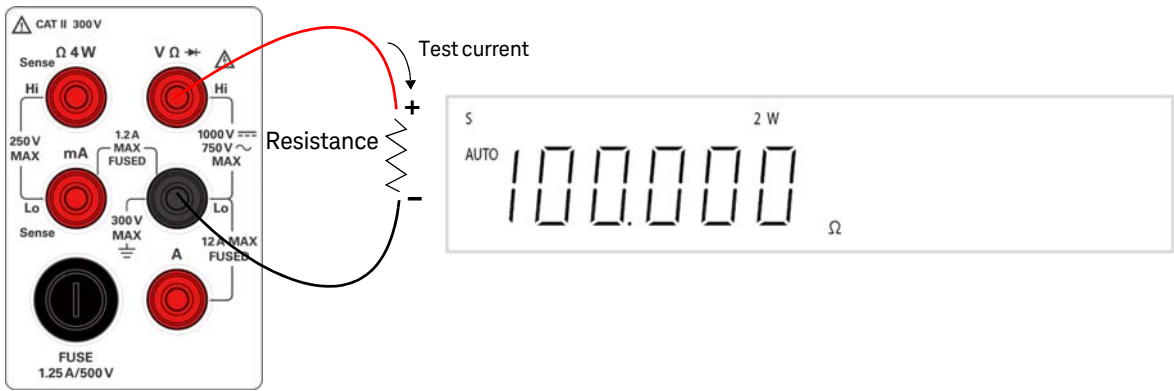
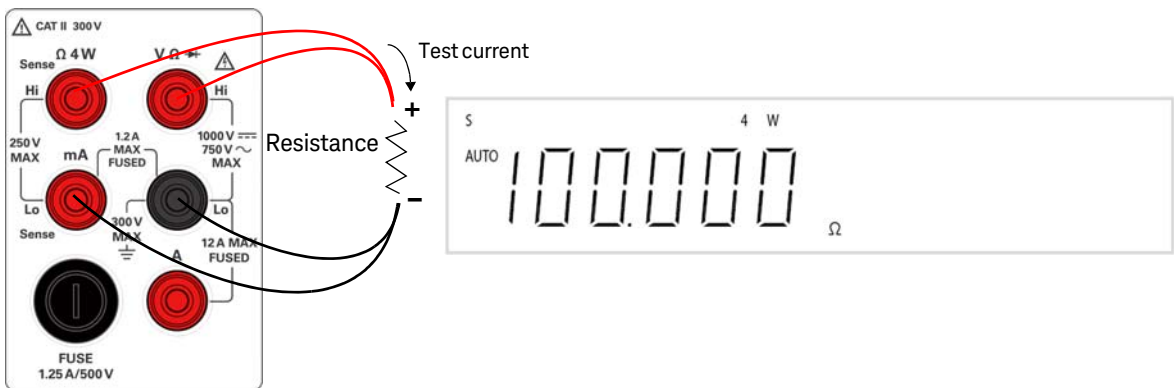

Figure 1-15 2-wire Ω terminal connection and display
Figure 1-16 4-wire Ω terminal connection and display
- 2 Connect the red and black test leads to the input terminal as shown in Figure 1-15 or Figure 1-16 on page 41 respectively (according to the selected measurement method).